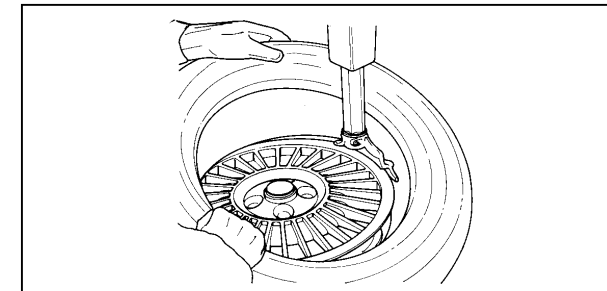

Fig. 17
B. Lock the rim on the turntable and rotate it to have the valve in 5 o'clock position. Place the tire to be mounted on the rim. Swing the mounting arm forward so that the mount/demount tool is in the working position. Engage the lower bead OVER the mounting wing and UNDER the mounting finger of the mounting tool. Turn the wheel clockwise and push the tire down into the drop center, opposite to the mount/demount head (Fig. 17).
Engager le talon inférieur AU-DESSUS de l'ailette de montage et EN-DESSOUS de la languette de l'outil. Faire tourner l'autocentreur dans le sens des aiguilles d'une montre et pousser le talon dans le creux en position opposée à l'outil (Fig.17)